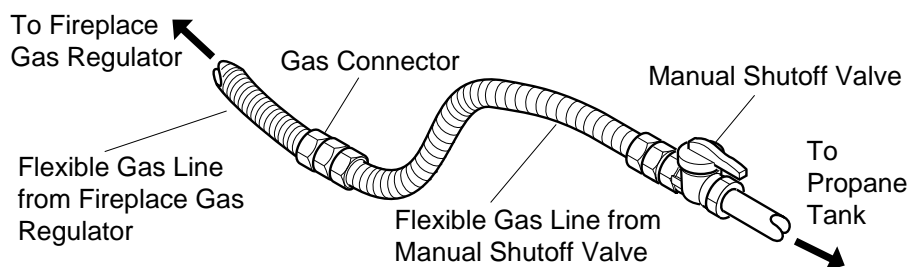

Figure 18 - Attaching Flexible Gas Lines Together
5. Apply pipe joint sealant lightly to male threads of gas connector attached to flexible gas line (see Figure 18). Connect flexible gas line to flexible gas line attached to gas regulator of fireplace (see Figure 18).